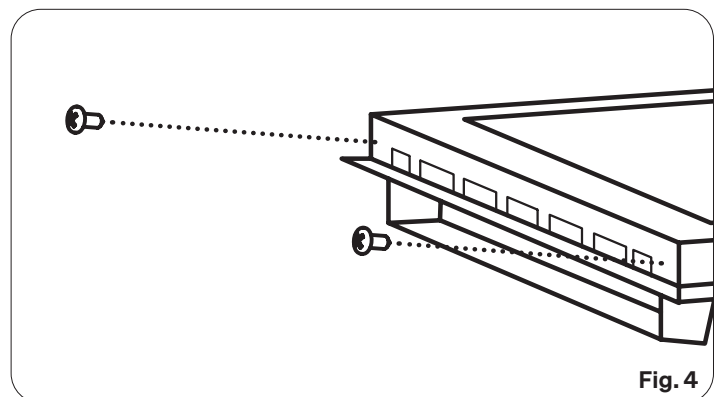

Fig. 4
- Remove the two screws shown in Figure 4.